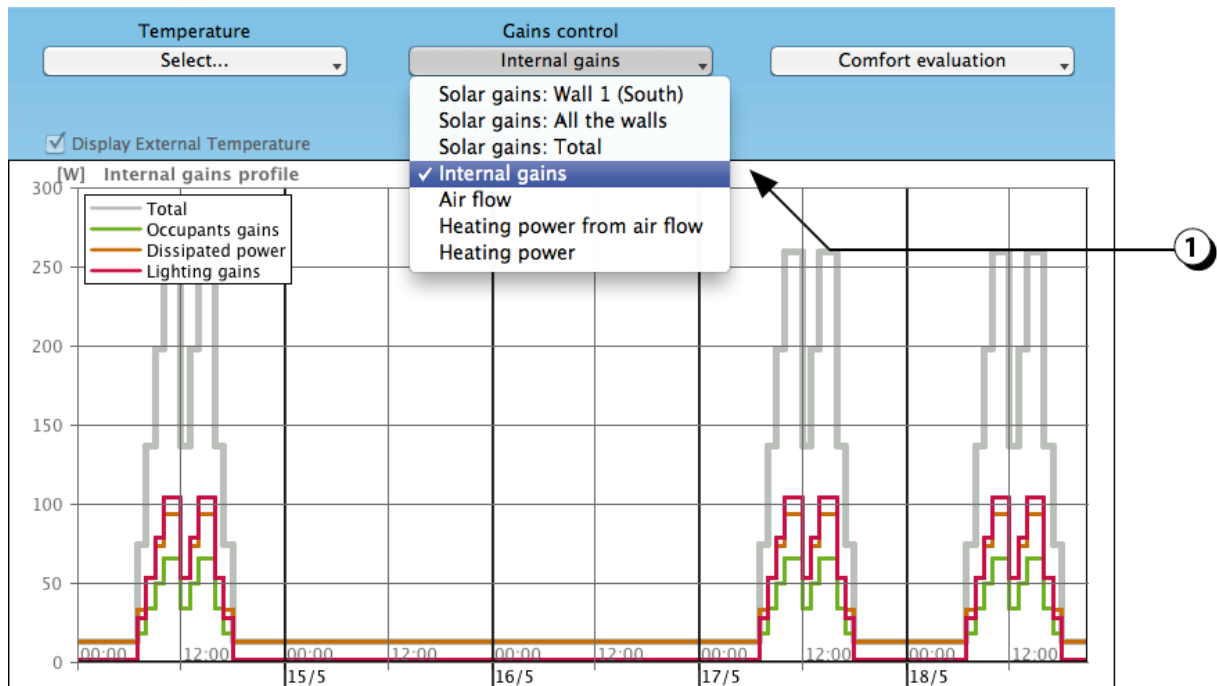

Figure 163: Internal gains according to the room occupation [W].
1. The “Gains control” menu also allows you to display the internal gains. The profiles are representative of the room function and schedule. Figure 163 hereafter shows a typical sequence of 5 days from Friday to Tuesday, including 2 unoccupied days (Saturday & Sunday).